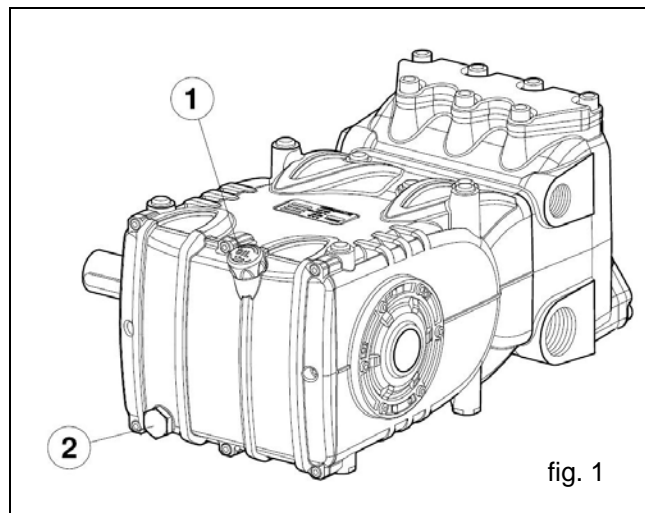

fig. 1
To drain the oil, remove the oil dipstick pos. ①, and then the plug, pos. ②, fig.1.